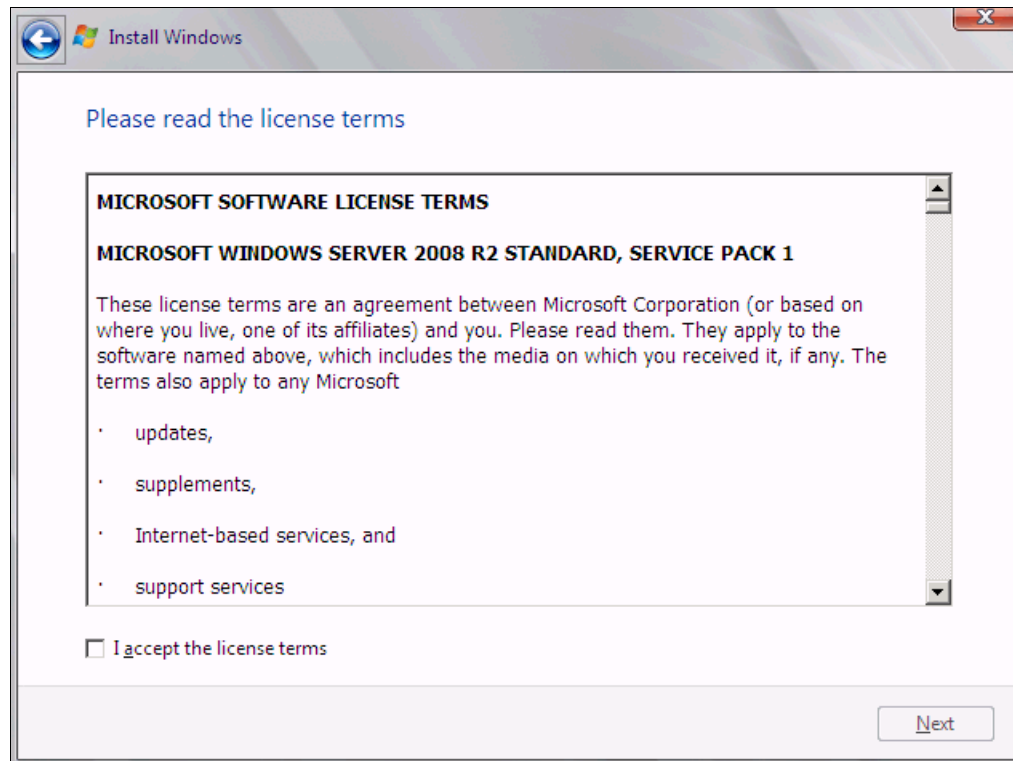

Figure 9-166 License agreement window
10. Read the license agreement (Figure 9-166), click **I accept the license terms**, and click **Next**.